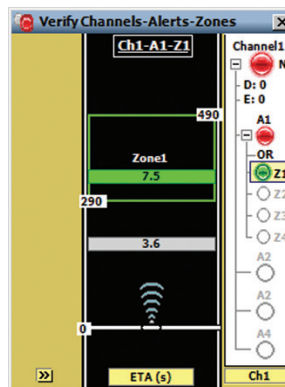

Figure 8.6 – Individual Channel View (Normal Channel)
Simple channels (annotated with an S) show only the channel output in the right-side bar, and priority channels (annotated with a P) go one layer deeper to the alert level. Because a priority channel only has one zone for each alert, only the alert level is shown. The normal channel (annotated with an N) and latched channel (L) go further down to the zone level (see Figure 8.6).